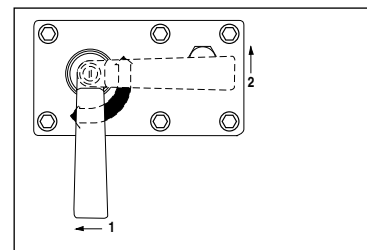

Figure 6
(See Figure 6)
3. Rotate the control valve handle to the retract ("2") position (see Figure 6 for valve positions).